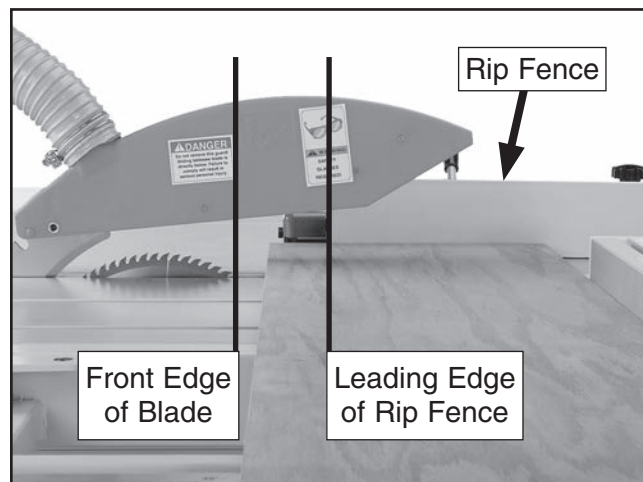

Figure 93. Correct rip fence position when using it as a cut-off gauge.
5. Slide the leading end of the rip fence behind the front edge of the blade as shown in **Figure 93**. (**This step is critical to reduce the risk of blade binding and kickback.**)